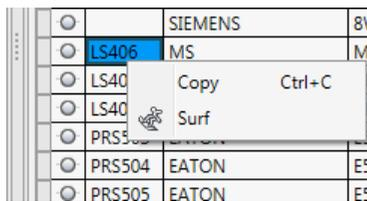

Figure 2-77 Shortcut menu displayed
- Scroll down in the **PROJECT MANAGER** and select **LS406** from the **Tag** column. Next, right-click on it; a shortcut menu is displayed, as shown in Figure 2-77.